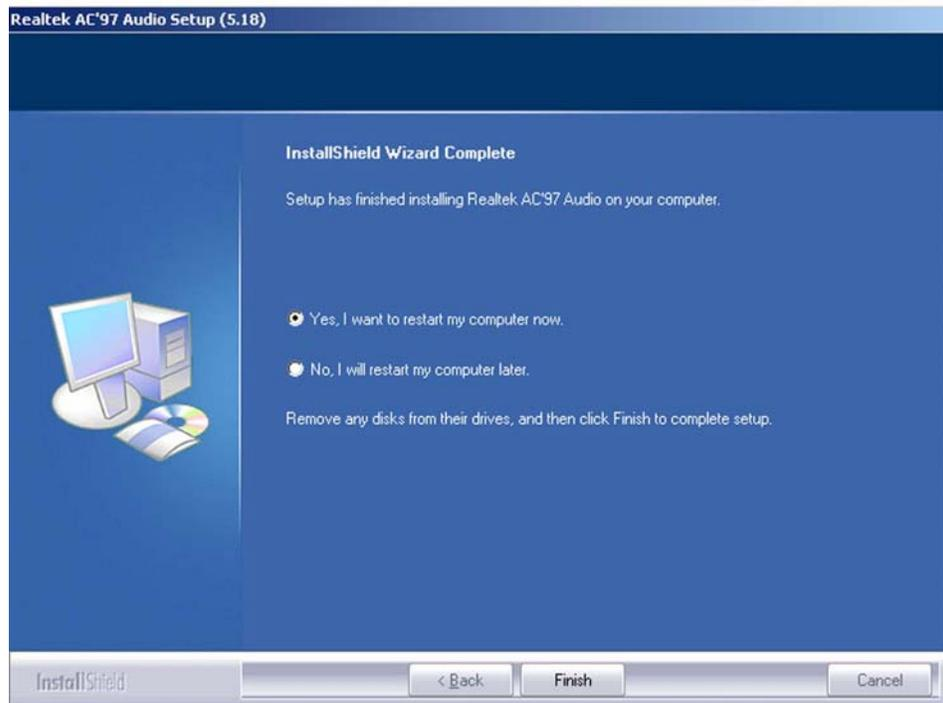

Figure 6-15: Audio Driver Installation Complete
Step 7: After the driver installation process is complete, a confirmation screen shown in **Figure 6-15** appears
Step 8: The confirmation screen shown in **Figure 6-15** allows you to restart the computer immediately after the installation is complete or to restart the computer later. For the settings to take effect the computer must be restarted. Once you have decided when to restart the computer, click the “**FINISH**” button.